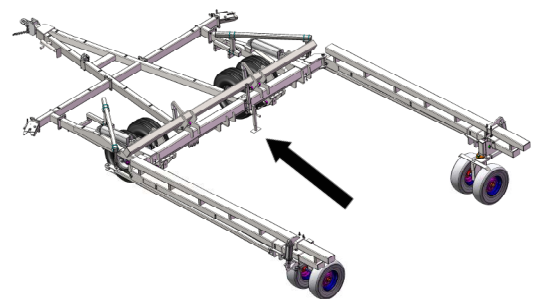

Figure 13 Jack in field / transport position (UP)
6. Use the implement jacks, found on the front hitch and back of center section of the toolbar, to take the weight of the implement. See Figure 13 & 14. If the unit is unfolded, lower the gangs to take the weight of the implement off of the tractor.